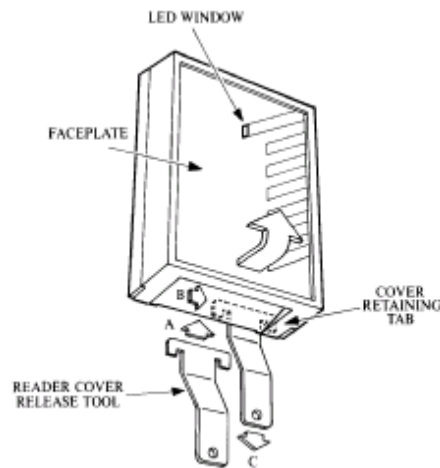

Figure 3
- 1) To release the reader cover from the base when the reader is mounted. Use the Cover Release Tool. See FIG.3